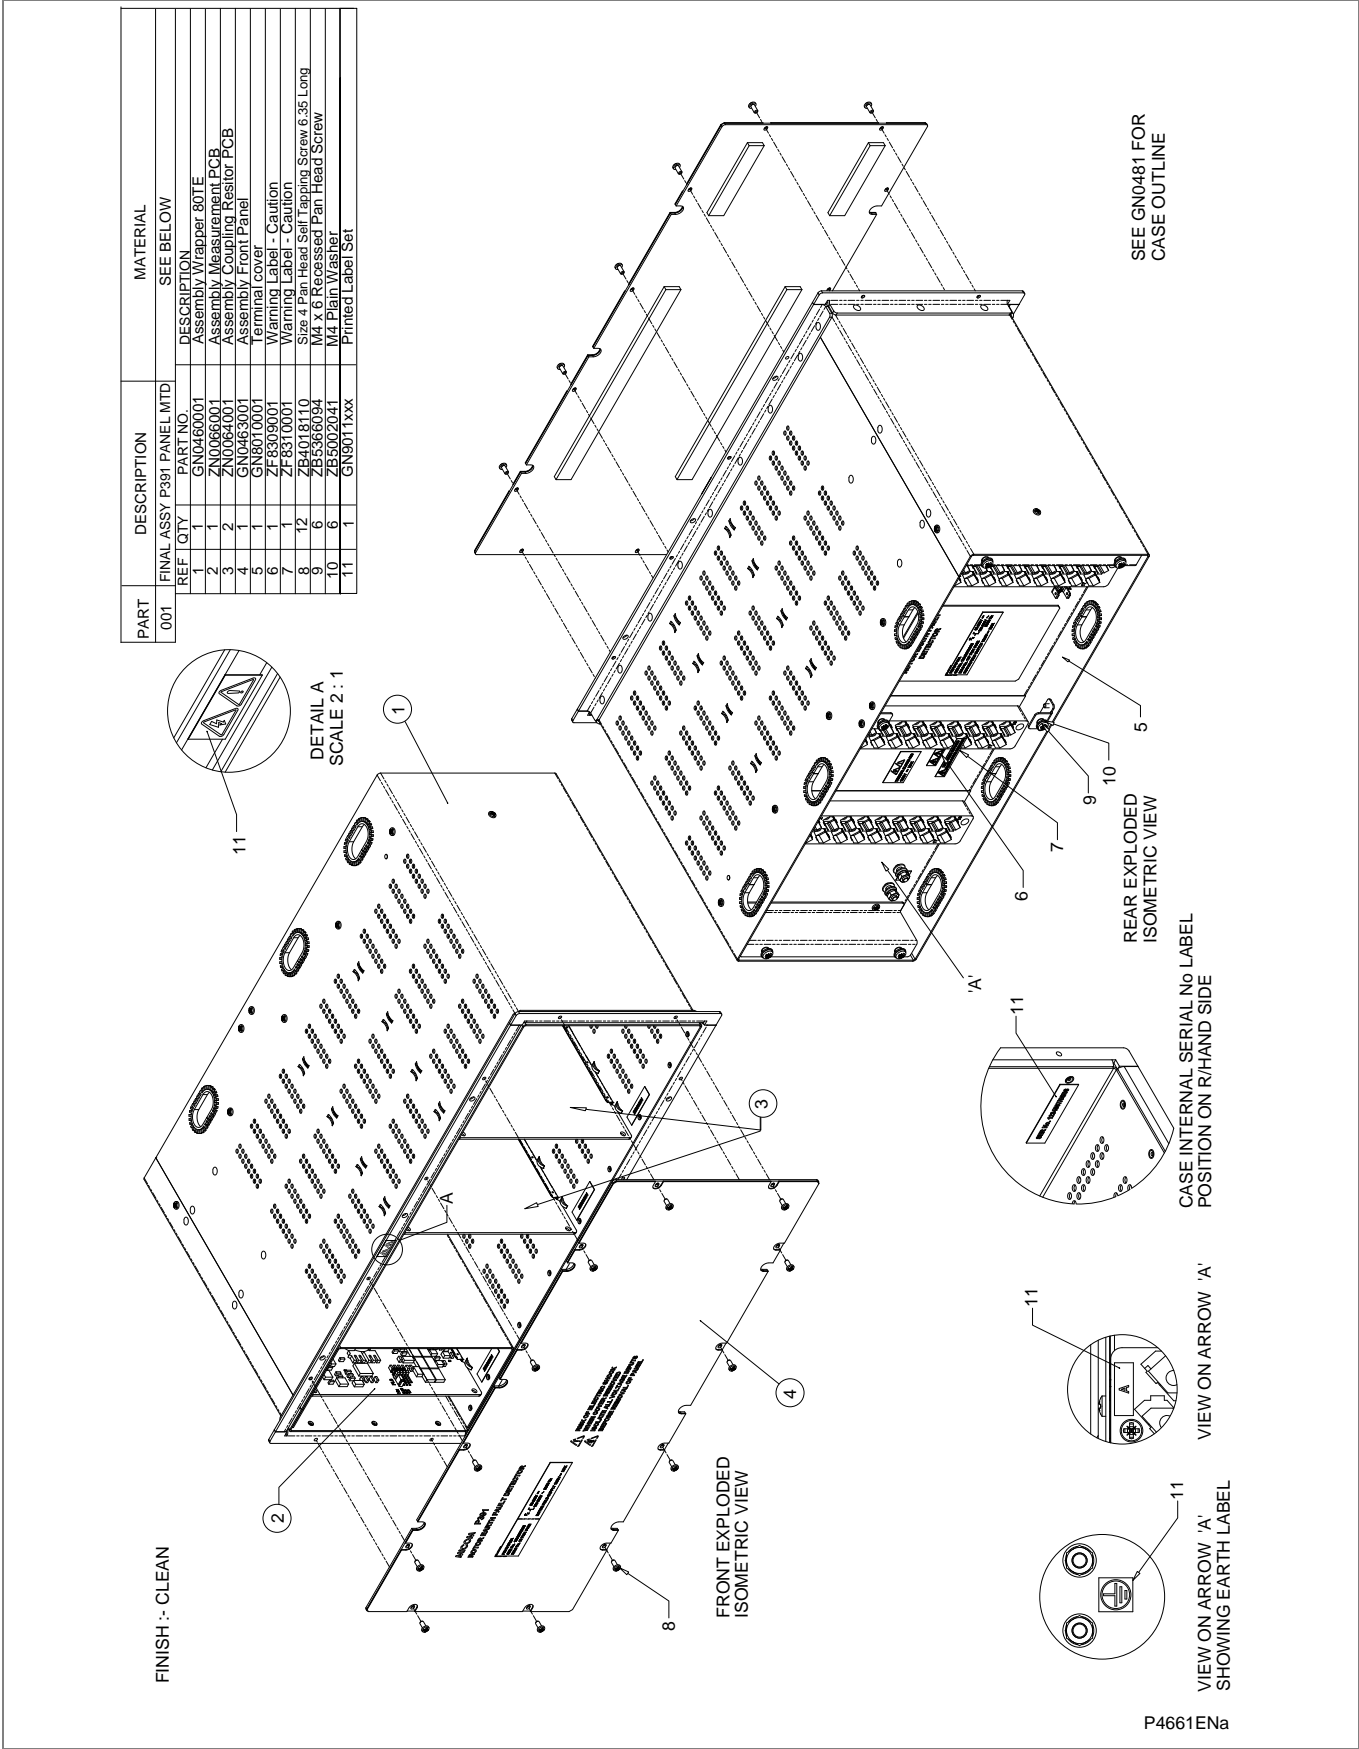

Figure 61 - P391 panel mounted - Final assembly drawing
- Figure 61 - P391 panel mounted - Final assembly drawing